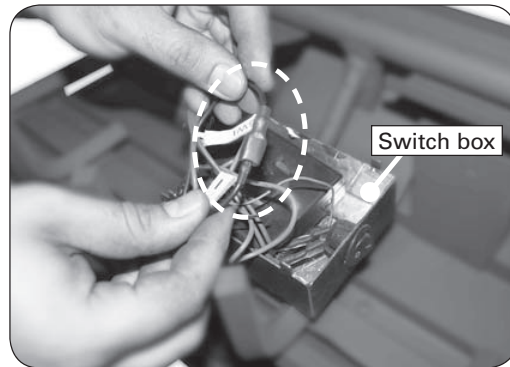

FIGURE 40
3. Disconnect the black wires, from the main harness to the switch box, as shown in **Figure 40**.